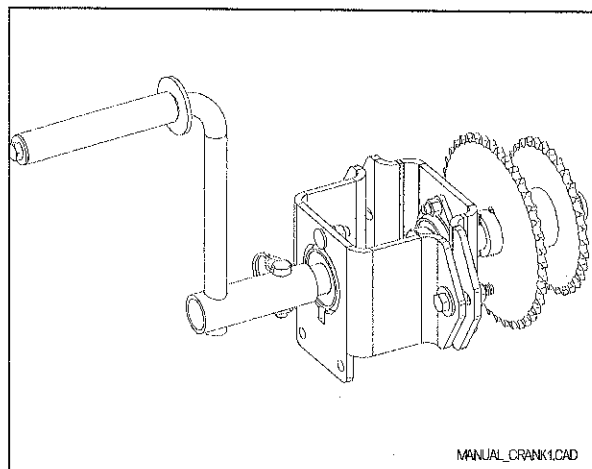

Figure 2.12 - Stationary Calibration Crank
10. Install the Stationary Calibration Crank onto the calibration crank shaft and secure with a 3/8" x 1 1/2" (9.5 mm x 38 mm) PTO pin. Refer to *Figure 2.12*.
11. Turn the crank **Counter Clockwise** two (2) revolutions per second. It is very important to turn the Stationary Calibration Crank at a constant speed, to simulate field travel.